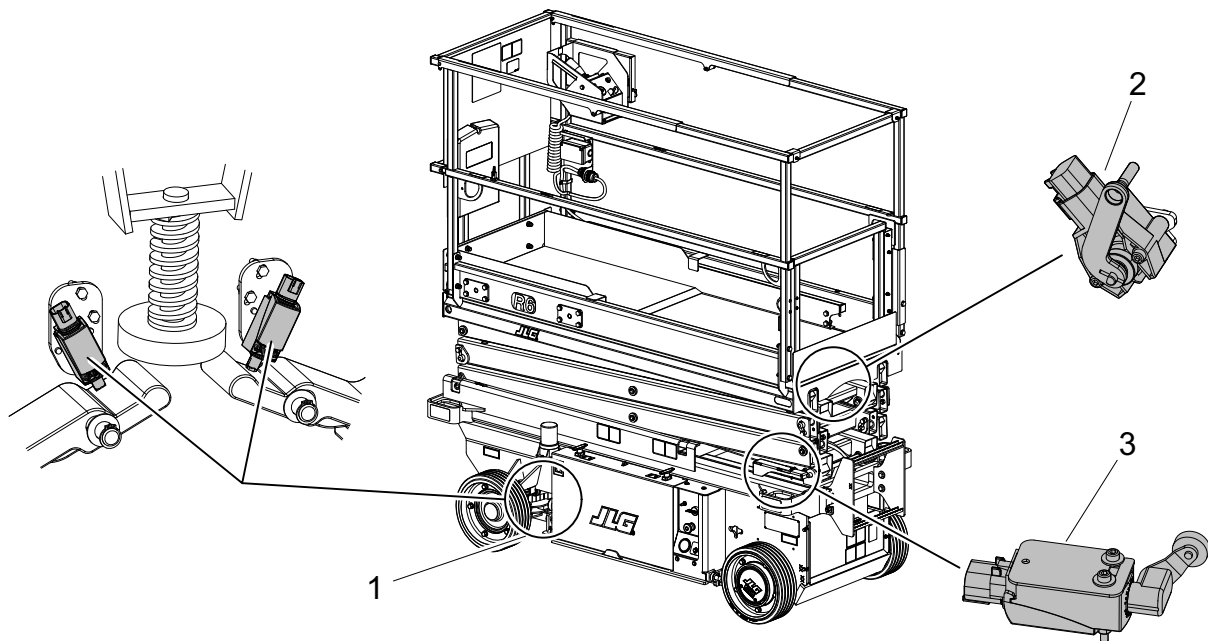
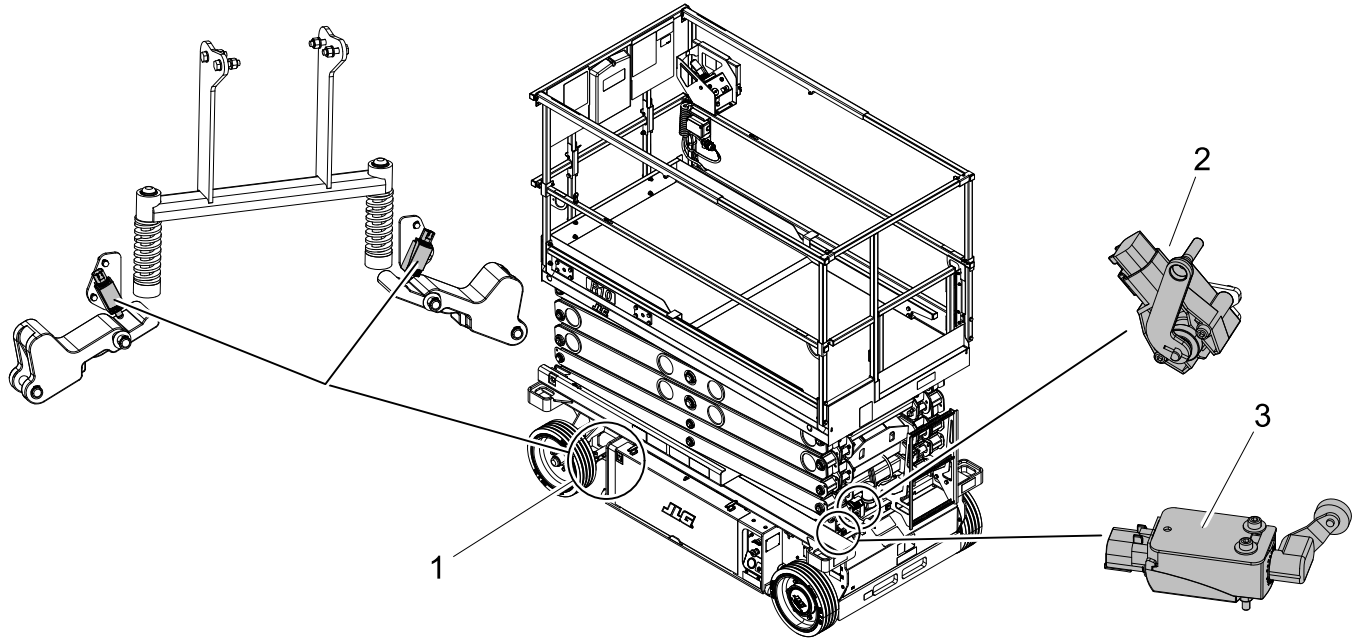

Figure 2-3. R6- Machine Limit Switch Location
Figure 2-4. R10 - Machine Limit Switch Location
- d. Operate all functions and check all limiting and cutout switches (*See Figure 2-4. on page 2-13*). Check that pot-hole-protection system bars are fully lowered when the platform is raised.
- f. With the platform elevated on a smooth, firm, level surface with no overhead obstructions, drive the machine to check if the high drive cutout speed-limit is engaged at the height indicated in Table 2-2. Ensure drive speed is reduced from a top speed to a slower speed. Limit switch locations shown in (Figure 2-3. and Figure 2-4.).